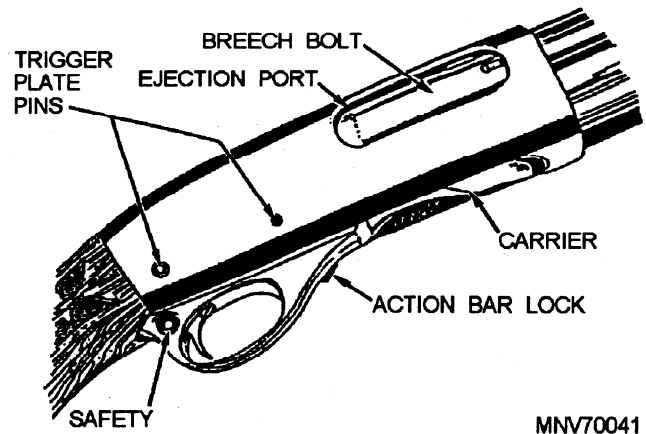

Figure 2-28.—Remington M870 receiver nomenclature.
**SAFETY.**—Before loading or unloading the weapon, push the safety (fig. 2-28) across the rear of the trigger, left to right, to the SAFE position (the red band on the safety will not show).
**SINGLE LOAD.**—Push the safety to the SAFE position. Press in the action bar lock (fig. 2-28) if the action is cocked and pull the fore-end (forward handgrip) fully to the rear. Place the shell into the open ejection port upon the downthrust carrier. Slide the fore-end toward the muzzle to load the shell into the barrel chamber and lock the action closed.
**TRIGGER PLATE ASSEMBLY.**—With the safety pushed to the SAFE position, cock the action. Tap out the front and rear trigger plate pins (fig. 2-28). Lift the rear of the trigger plate from the receiver, then slide it rearward to remove it from the gun. Clean the trigger assembly as a unit by brushing it with a solvent. Wipe the trigger assembly dry and re-oil it very sparingly. As you replace the plate assembly, make sure the action bar lock enters the receiver easily and operates in position.